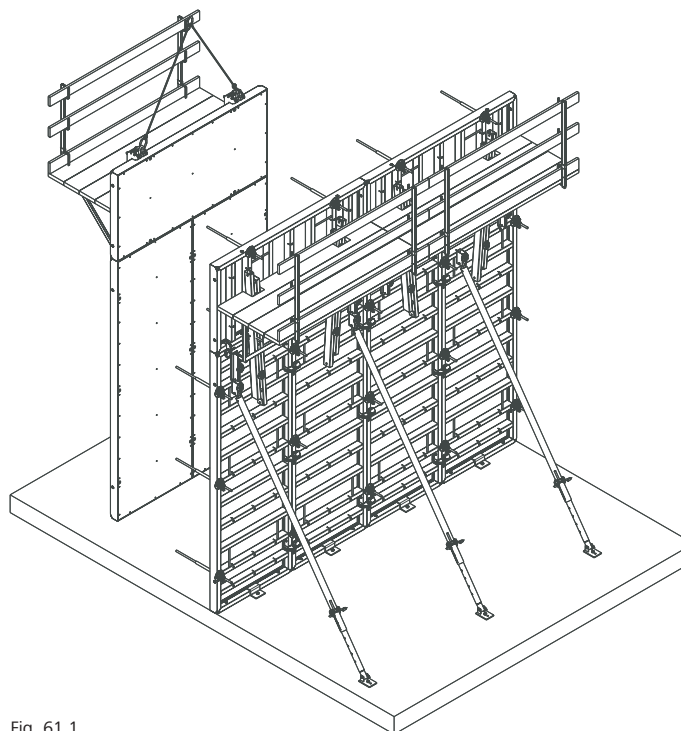

Fig. 61.1
2. Lift the second side gang form, apply form release agent, and set into place (Fig. 61.1). Anchor braces and install and anchor shoe plates if being used on second side. Otherwise, install taper ties or remaining components of other tie systems and secure with flange nuts.